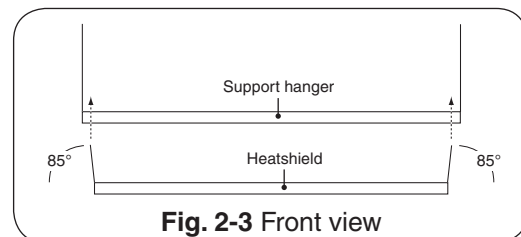

Fig. 2-3 Front view
Step 3: Bend the 4 heatshield tabs upward, slightly less than a right angle, approximately 85°. Insert the tabs into the slots located at the bottom of the two support hangers. Once inserted they will slightly flex outward and lock in position. (See Fig. 2-3.)